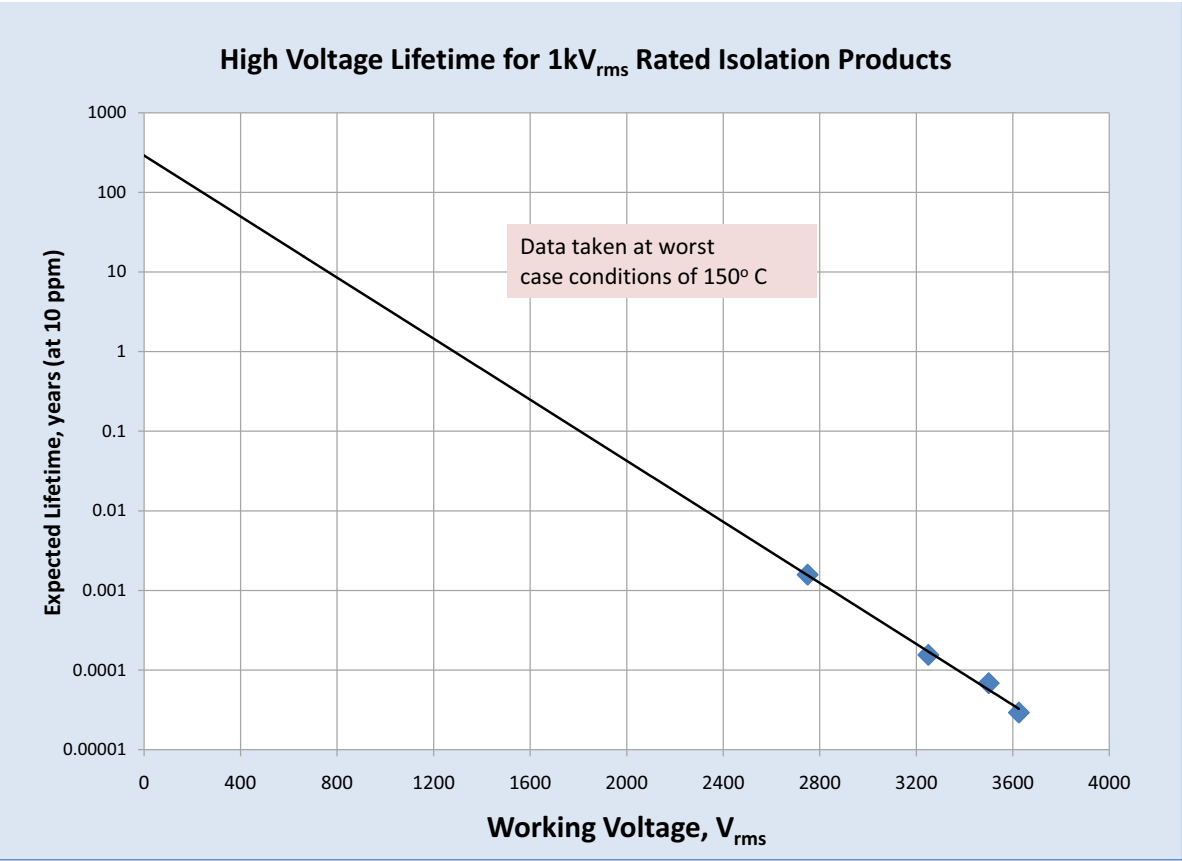

Figure 13. Si84xx Time-Dependent Dielectric Breakdown
- Added Figure 13, "Si84xx Time-Dependent Dielectric Breakdown," on page 22.